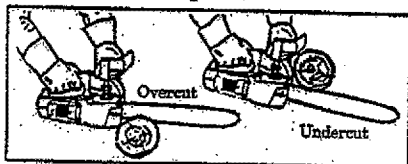

Figure 23
2. TYPES OF CUTTING USED (Figure 23):